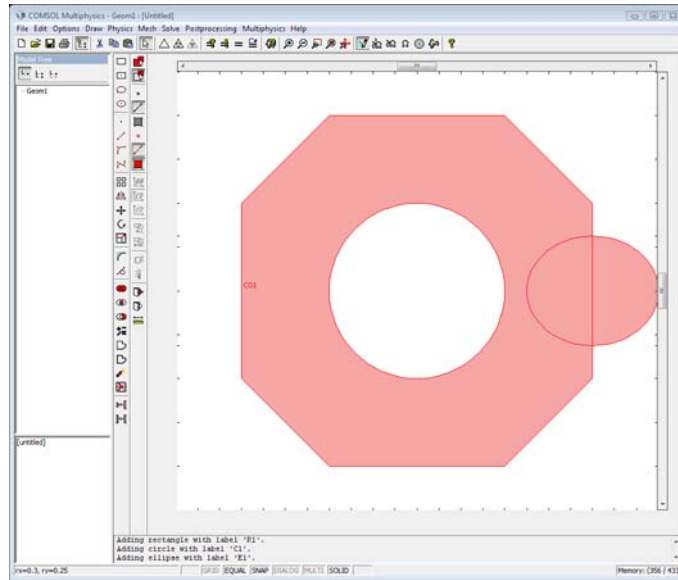

Figure 4-2: Sample 2D geometry.
*Multiphysics User's Guide.* You can set up the geometry discussed in that example—reproduced here in Figure 4-2—using Boolean operations from the command line.